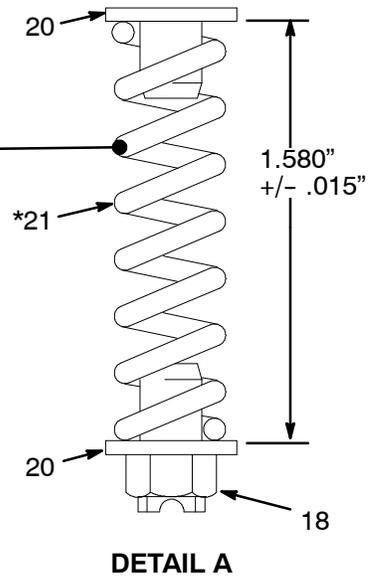

Fig. 4
Refer to Fig. 4 when you are doing steps 1 to 16.
7. Unscrew the nut (18) and remove the spring (21) from the stop rod (12). Install a new spring (21*) and screw on the nut (18), adjusting the nut as shown in Detail A in Fig. 4.
9. Tap the housing retainer (33) with a plastic mallet to loosen it, and then pull it away from the lower cylinder cap (32).
21. Slide the lower cylinder cap (32) onto the displacement rod. See Fig. 4.